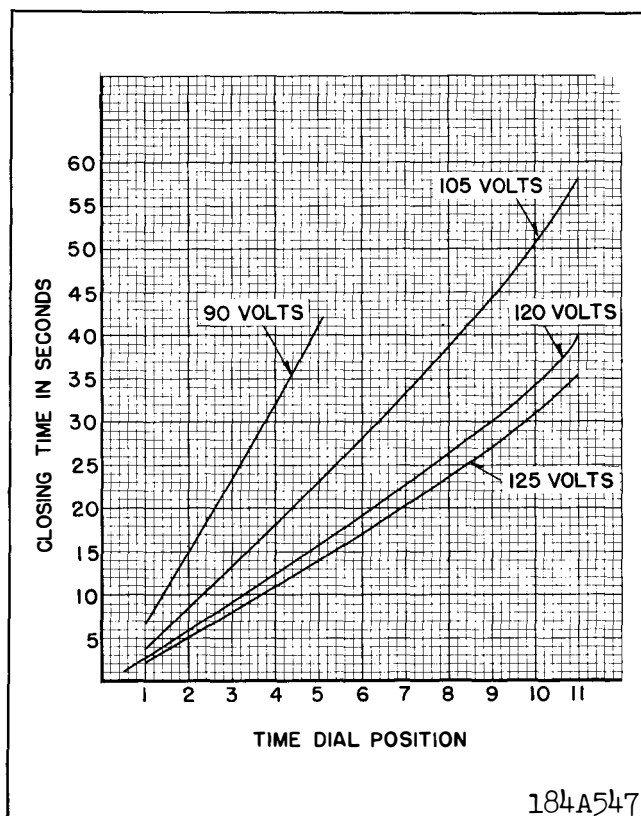

Fig. 4. Typical Time Curves of the Timer Unit of the 120 volt Type CRN-1 Relay. Proportional voltage apply for the 208 volt relay.
it is adjusted by the time dial position. Fig. 4 gives a curve of time delay vs time dial setting for various impressed voltages. Time is approximately proportional to time dial setting.
3. Time Curve – Fig. 4 shows the time curve for the CRN-1 relay. With the time dial set to the indicated position, apply the voltages specified and measure the operating time of the relay. The operating times should equal those of Fig. 4 plus or minus 5 percent.